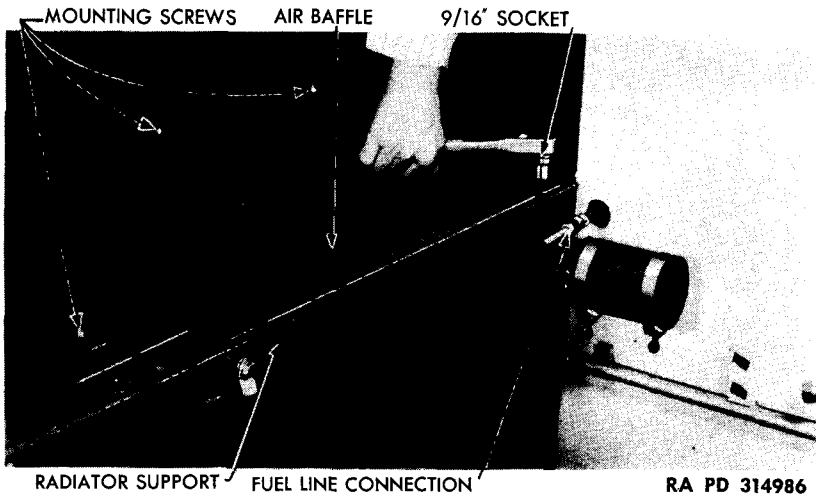

Figure 29 – Air Baffle and Fuel Line
(11) **REMOVE RADIATOR SUPPORT AND AIR BAFFLE.** Disconnect fuel lines at fuel pumps. Disconnect fuel supply line where it passes through left engine compartment sidewall (fig. 29). Remove 10 screws from outer edges of air baffle, two self-tapping screws from center of baffle, and remove baffle. Remove two screws from ends of radiator support; remove support with fuel line attached.